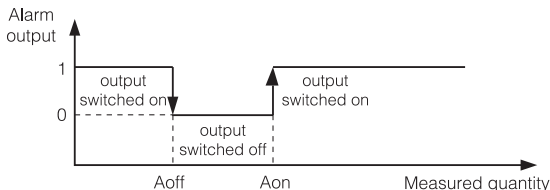

Fig. 14. Alarm types: a) n-on, b) n-off c) on d) off.
- b) kind of the alarm output operation – choose one from 10 modes n-on, n-off, on, off, h-on and h-off, A3non, A3nof, A3_on, A3_of. Working modes have been presented on the fig. 14,
Exemplary configuration of alarms 1-4 is presented on the fig. 14.